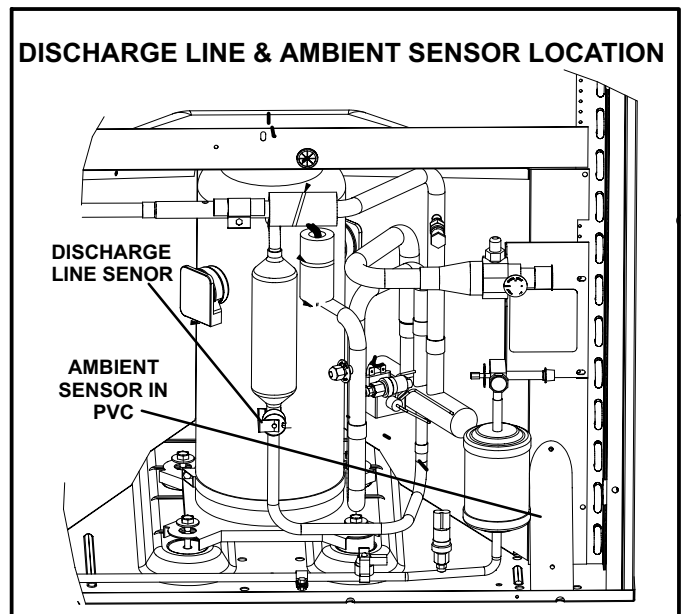

FIGURE 15
**Ambient Sensor**—The ambient sensor considers outdoor temperatures below -35°F (-37°C) or above 120°F (48°C) as a fault. If the ambient sensor is detected as being open, shorted or out of the temperature range of the sensor, the board will not perform demand defrost operation. The board will revert to time/temperature defrost operation and will display the appropriate fault code. Heating and cooling operation will be allowed in this fault condition. The ambient temperature sensor is located in the PVC tube next to the filter drier. See figure 15.
**Discharge Line Sensor**—If the discharge line temperature exceeds a temperature of 300°F (148°C) during compressor operation, the board will de-energize the compressor contactor output (and the defrost output, if active). The compressor will remain off until the discharge temperature has dropped below 225°F (107°C) and the 5-minute anti-short cycle delay has been satisfied. See figure 15 for location. This sensor has two fault and lockout codes: